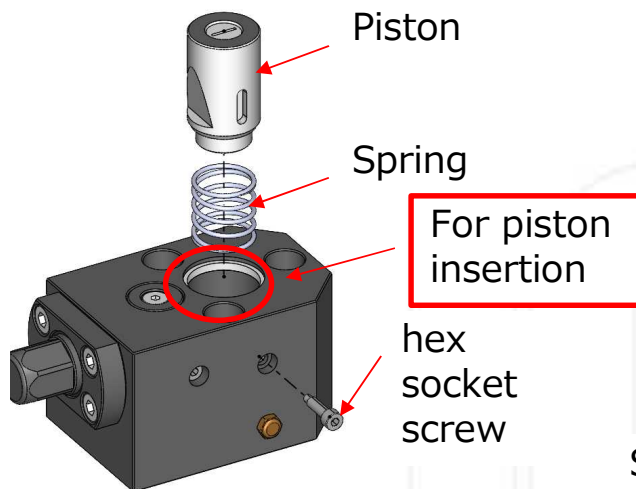

Figure 1
1. Disassembly (See Figures 1 and 2)